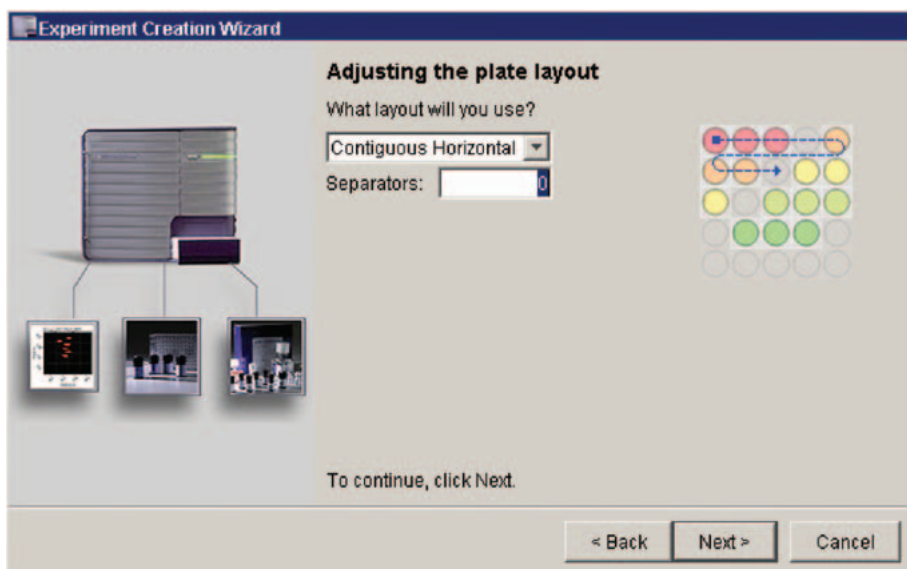

Figure 7
- The Adjusting Plate Layout view appears (*Figure 7*). In this view, you can choose how to lay out samples on the plate.